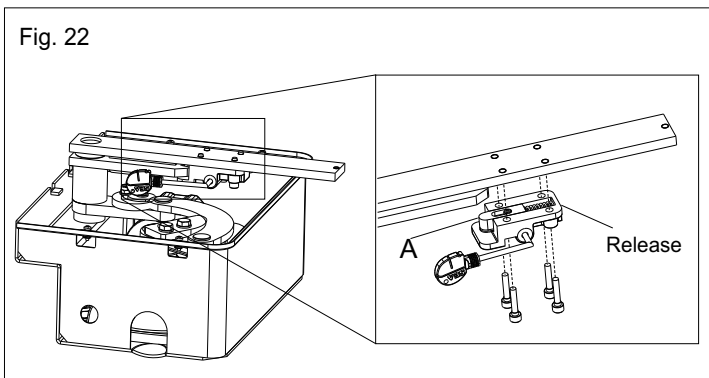

Fig. 22
5.1. Grease the hinge (A) and mount the release system under the leaf device using the 4 furnished screws (Fig. 22)